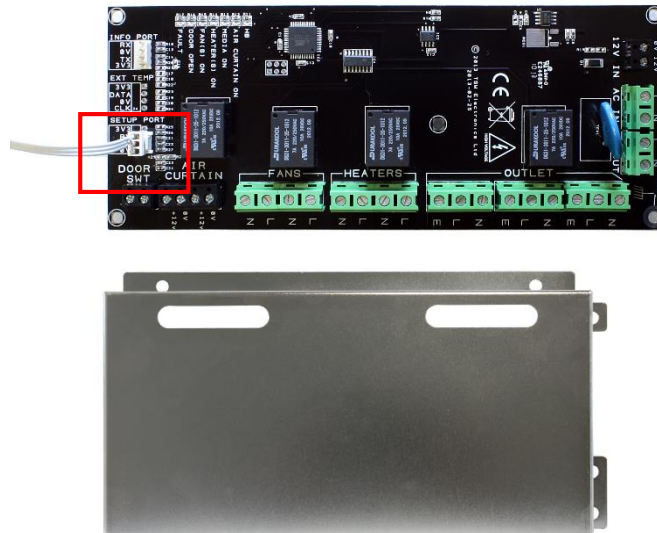

Figure 2
6. Connect the USB cable to your computer and the 3-pin internal connection to the setup port (highlighted red) on the controller board; located on the left hand side, third from the top (figure 2).